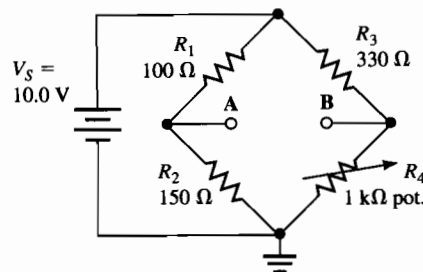

Figure 13–3
- Construct the Wheatstone bridge circuit shown in Figure 13–3. R_4 should be set to its maximum resistance. Use the voltage divider rule to compute the voltage at point **A** with respect to ground and the voltage at **B** with respect to ground. Enter the computed V_A and V_B in Table 13–2.
- Measure V_A and V_B . Because these voltages are measured with no load, they are the Thevenin voltages for the bridge using the method illustrated in Figure 13–1. Enter the measured voltages in Table 13–2 and show them on Figure 13–4.
- Compute the Thevenin resistance on the left side of the bridge in Figure 13–3 by mentally replacing V_S with a short. Notice that this causes R_1 to be in parallel with R_2 . Repeat the process for the right side of the bridge. Enter the computed Thevenin resistances, R_{TH} and R'_{TH} , in Table 13–2 and on Figure 13–4. Then replace V_S with a short and measure R_{TH} and R'_{TH} .